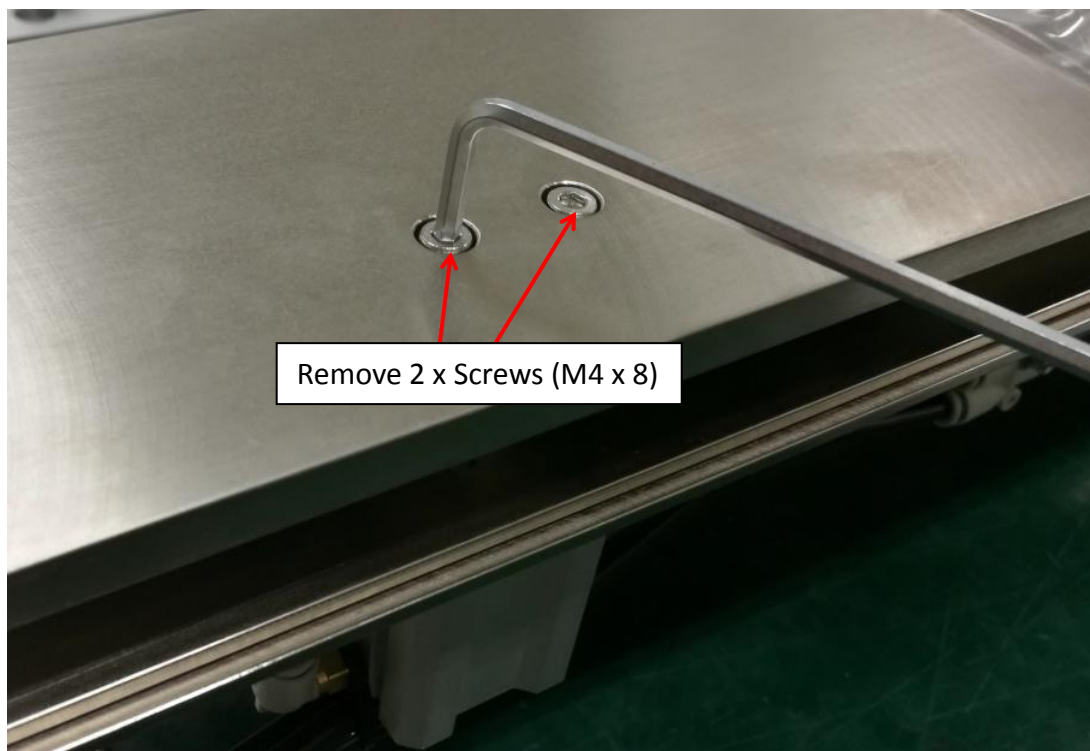

Figure 4 Screws Removal
6. Remove 2 x Screws (M4 x 8) as shown in Figure 4.